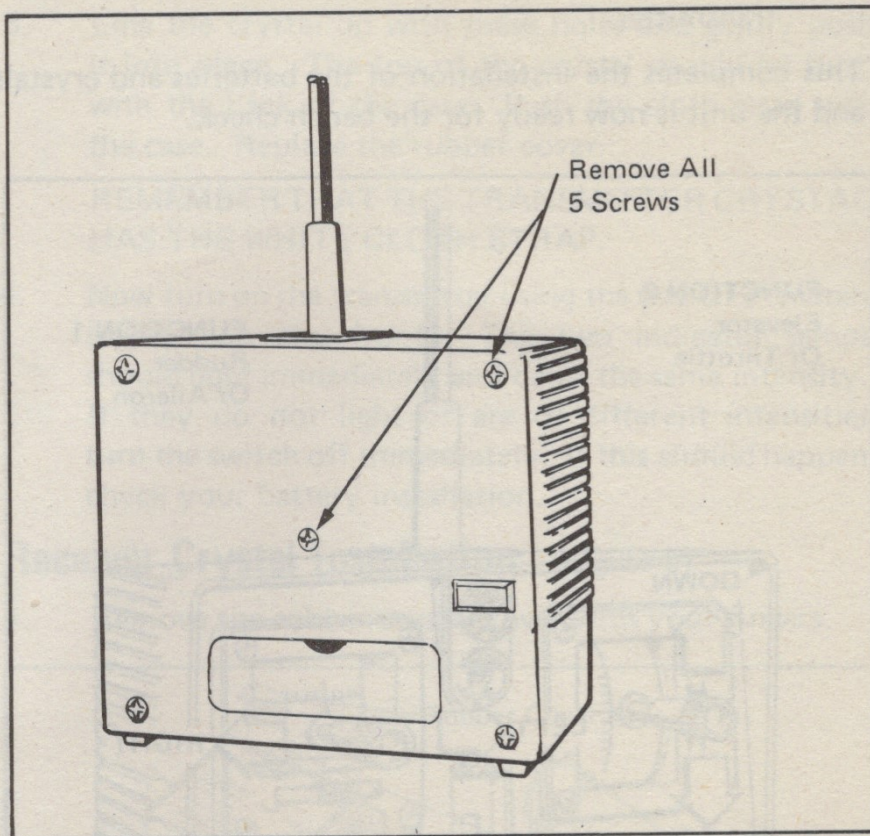

Figure 8.
The following steps are required to make this change and the reverse is required to return it to the normal spring loaded configuration. Refer to Figures 8 and 9.
1. Remove the five screws indicated in Figure 8. Then remove the back.